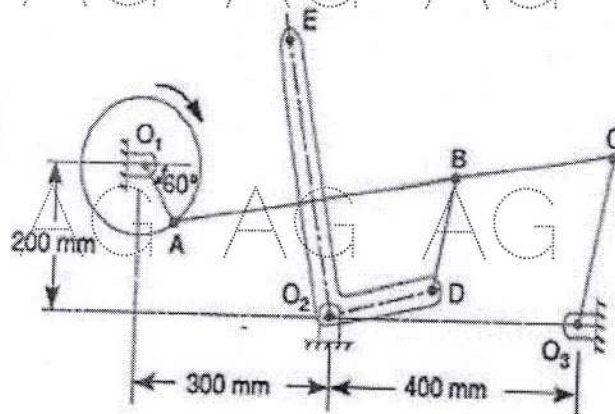

Figure: 1
3. The mechanism of a wrapping machine as shown in figure 1 has the following dimensions O_1A is 100 mm, AC is 700mm, BC is 200mm, O_3C is 200mm, O_2E is 400mm, O_2D is 200mm and BD is 150mm. The crank O_1A rotates at a uniform speed of 100 rad/s. Find the velocity of the point E of the bell crank lever by instantaneous centre method. [15]